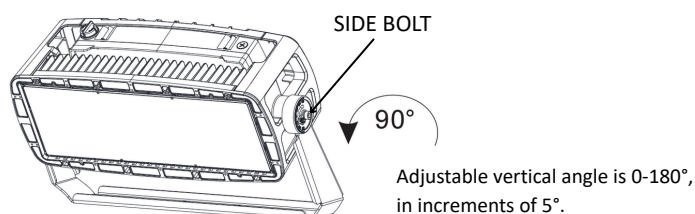

Fig. 3
3. To make vertical angle adjustments, loosen the side bolt on each side of the yoke with a M10 Allen Key. Rotate the fixture up to 90° in each direction, and tighten the bolts at 30 Nm (22.2 ft.lbs) to secure (Fig. 3).